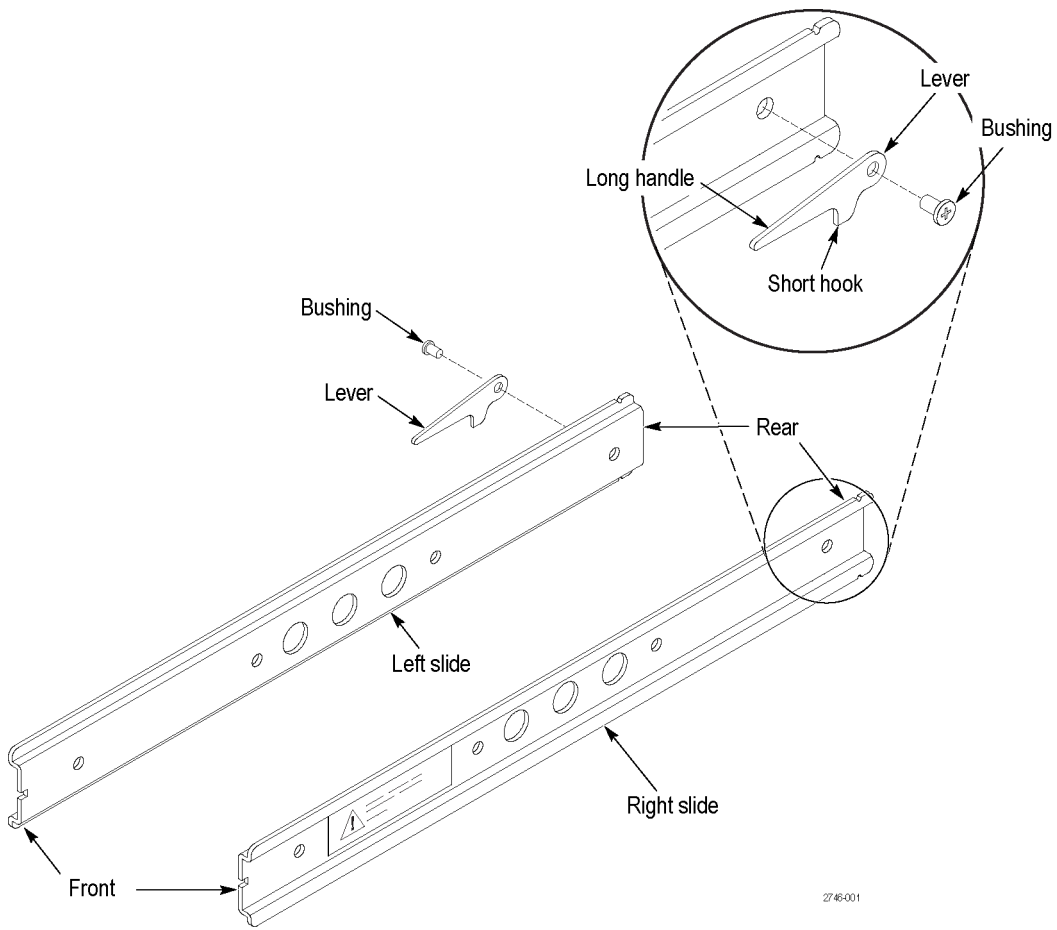
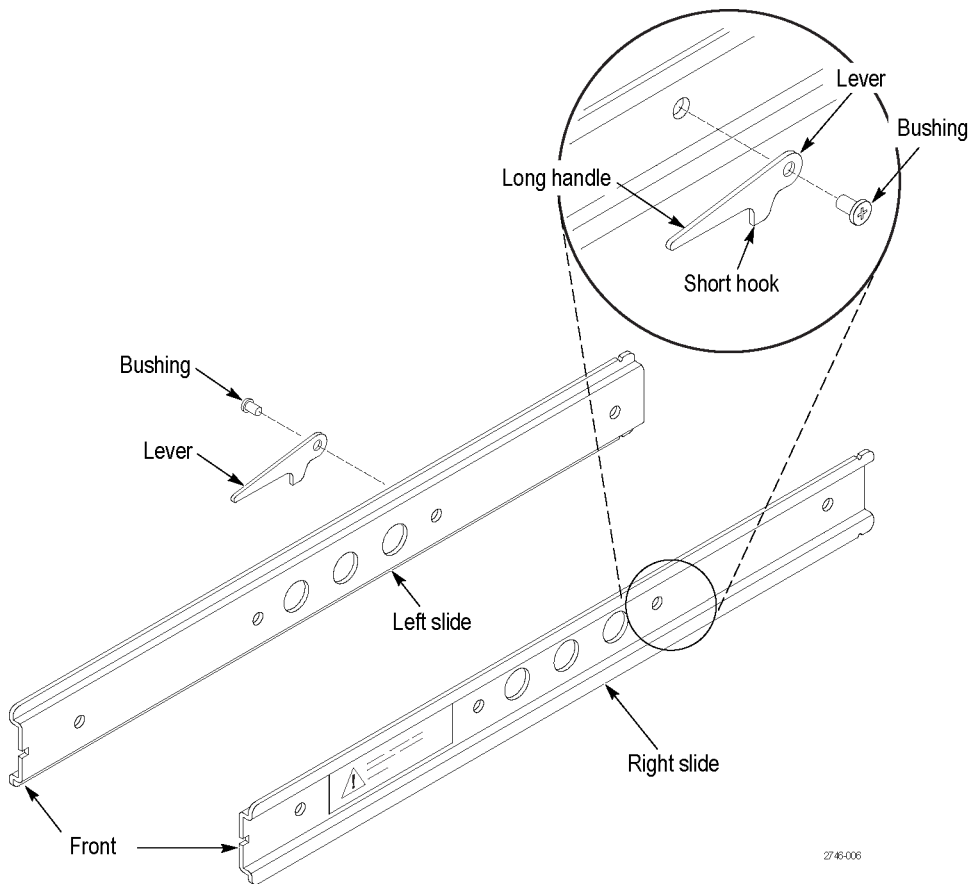

Figure 3: Attaching the slide levers (all instruments except the SPG700, SPG8000, SPG8000A and PRISM MPX)
Figure 4: Attaching the slide levers (SPG700, SPG8000, SPG8000A and PRISM MPX only)
1. Identify the right rear and left rear of each slide. A warning label will be on the outside side of each slide. (See Figure 3.) (See Figure 4.)
- c. Place the lever, with the long handle facing the front of the slide and the short hook facing downward, over the remaining mounting hole. (See Figure 3.) (See Figure 4.)